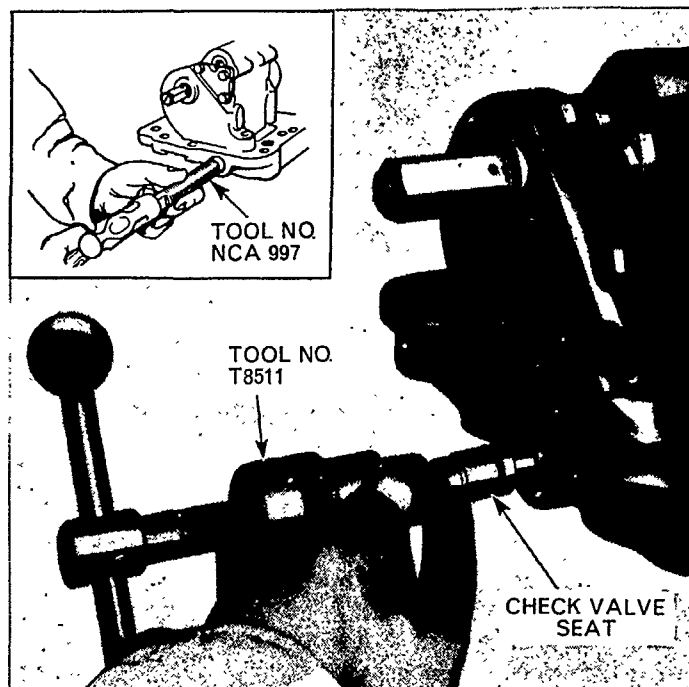

Figure 41
20. Examine the seat of the check valve and install a new one if worn or damaged. Install a new 'O' ring in the recess. Locate the seat on the pilot of Tool No. T.8511. Enter the seat in the check valve passage and screw the body of the tool into the threaded outer end of the passage, Figure 41. Operate the centre screw of the tool and press the check valve seat and bushing into position. Remove the tool.